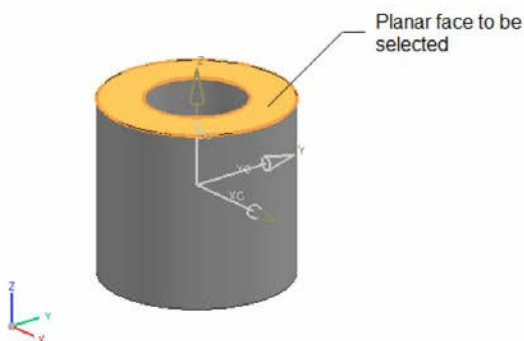
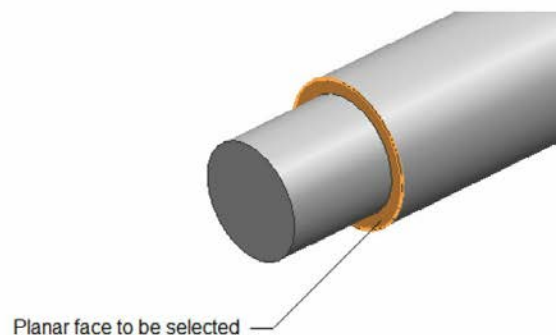

Figure 8-70 Planar face of the Handle Screw
Figure 8-71 Planar face of the Handle
6. Next, select the planar face of the Handle Screw, refer to Figure 8-70, and then select the planar face of the Handle, refer to Figure 8-71.